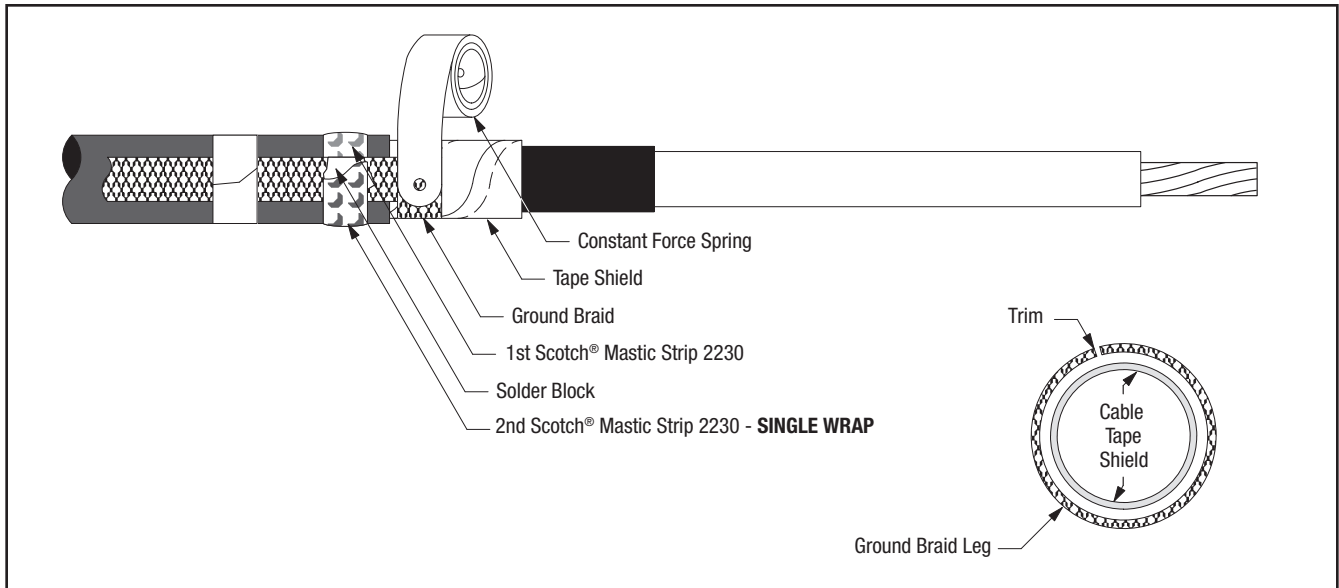

Figure 4
3.3 Wrap ground braid around cable tape shield one complete wrap, trim excess at approximately a 45 degree angle, and line up with the pre-bent 45 degree angle already on the ground braid, to prevent overlap. Secure in place with constant force spring. Wrap spring in same direction as ground braid (Figure 4). Cinch (tighten) the spring after wrapping the final winding.
3.4 Select second Scotch® Mastic Strip 2230 from kit and remove white release liners. Apply a second **SINGLE WRAP** of mastic over solder block on ground braid and previously applied mastic (Figure 4). Cut off excess.